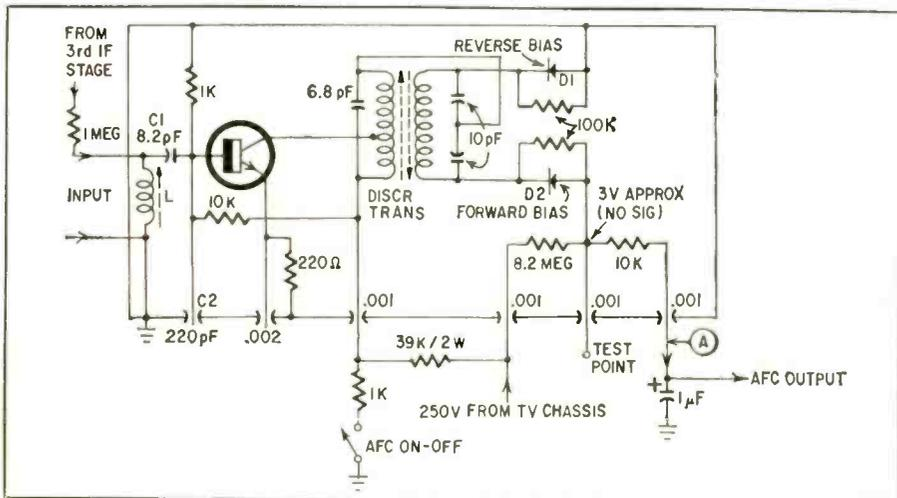

Fig. 1—This solid-state discriminator uses both forward and reverse bias on the diodes.
The error sensor is a transistor discriminator (Fig. 1). The 45.75-MHz picture-i.f. signal is coupled from the plate of the third i.f. stage through a 1-meg  $\frac{1}{4}$ -watt resistor to discriminator input coil L. This coil is tuned slightly higher than 45.75-MHz (approximately 46.1 MHz) to compensate for the slope in i.f. response.
The transformer primary and secondary are coupled by both inductive (physical spacing between two coils) and capacitive (two 10-pF capacitors) means. These two coupling methods provide the in-phase and out-of-phase components generally associated with discriminator design. The matched diodes and their load resistors are appropriately coupled to the secondary; filtered dc control voltage is then available at point A in Fig. 1. The 1- $\mu$ F electrolytic provides low-frequency decoupling, removing video information from the picture carrier. It also provides a sufficiently long time constant to prevent accidental lock-in.
The diode detector employs an unusual dc biasing method. Referring to Fig. 1, note the following: (1) Diodes D1 and D2 are reverse- and forward-biased respectively (in no-signal operation). (2) Approximately 3 volts is developed at the test point. This voltage (1 to 8 volts) is used to supply reverse
Fig. 1—If the lowest range on your ac meter is 1 or 1.5 volts, you can use a fixed voltage divider at the generator output. Ordinary 10% resistors will do—the error will be in the vicinity of only 1 dB. For higher accuracy, choose 1% resistors in ratios of 9:1, 99:1 and 999:1. The dividers should be enclosed in grounded shield cans to avoid stray hum and noise pickup.
If you expect to have to measure preamplifier gain and frequency response, you may find the "blindness" of not having a sensitive enough instrument a real handicap. (Fig. 1 shows a way around the problem which may not always be convenient.)